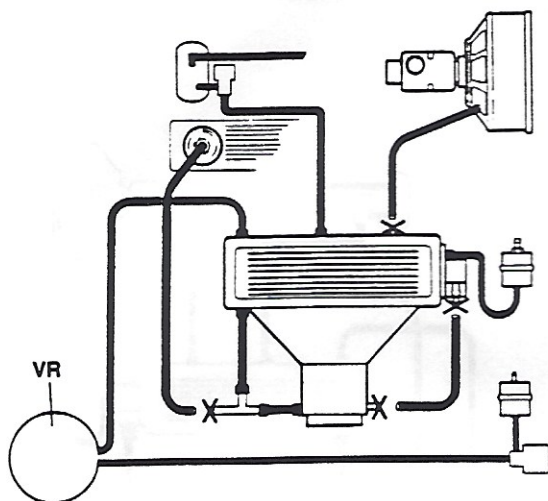

fig.62
Next unseal and refit the hose from the vacuum reservoir (VR) as indicated in Figure 62.